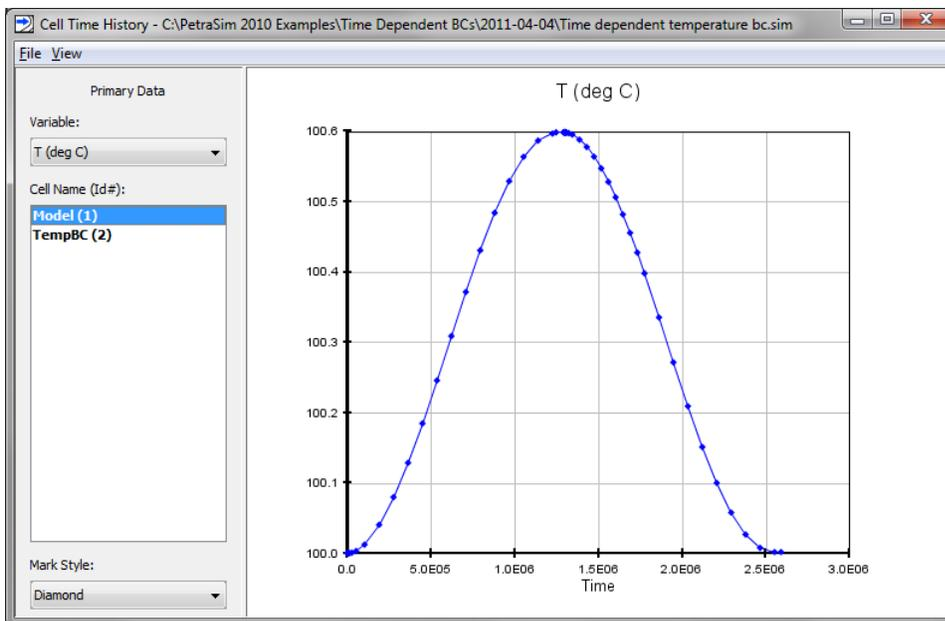

Figure 4: Time history response of model cell
6. In the **Cell Name** list, click **Model** to view the time history of the temperature in the model cell. This response shows a temperature change from 100 °C to a maximum of 100.5983 °C, Figure 4. A hand calculation gives an analytic value of 100.597 °C.